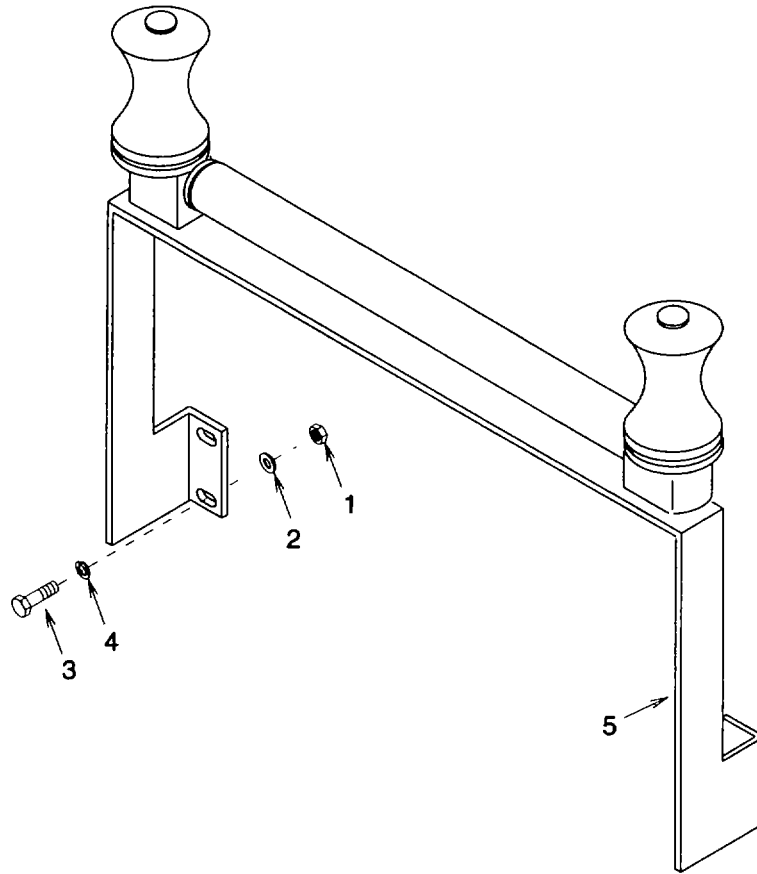

Figure 4-13. Hose Roller Assembly Removal
a. Removal (See figure 4-13)
e. Installation (See figure4-13.)